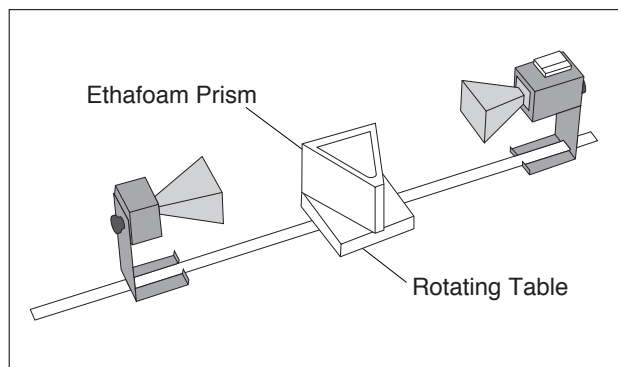

Figure 4.2 Equipment Setup
- ① Arrange the equipment as shown in Figure 4.2. Rotate the empty prism mold and see how it effects the incident wave. Does it reflect, refract, or absorb the wave?
- ② Fill the prism mold with the styrene pellets. To simplify the calculations, align the face of the prism that is nearest to the Transmitter perpendicular to the incident microwave beam.
- ③ Rotate the movable arm of the Goniometer and locate the angle  $\theta$  at which the refracted signal is a maximum.